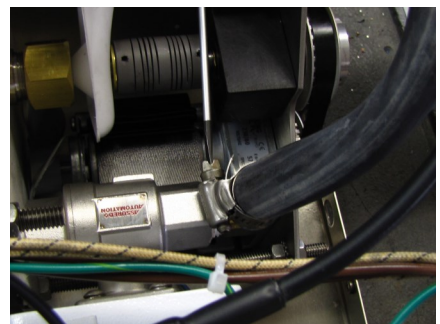

Figure 28
28. Replace the black tube and tighten the hose clamp with a flat head screwdriver as shown in Figure 28.